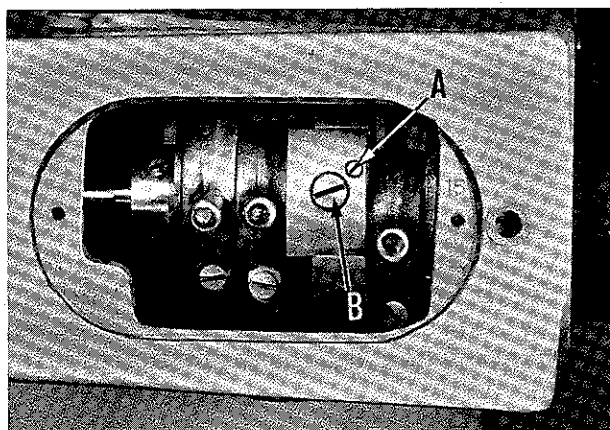

Fig. 16
This adjustment is made through the access hole in the top of the arm (Fig. 16). Remove top cover and turn handwheel in operating direction until lock screw (A) and adjusting screw (B) are in view. Loosen lock screw (A) and turn adjusting screw (B) in the required direction. Turning the adjusting screw clockwise shortens the stitch and counter-clockwise lengthens it. Re-tighten lock screw (A) and replace top cover.